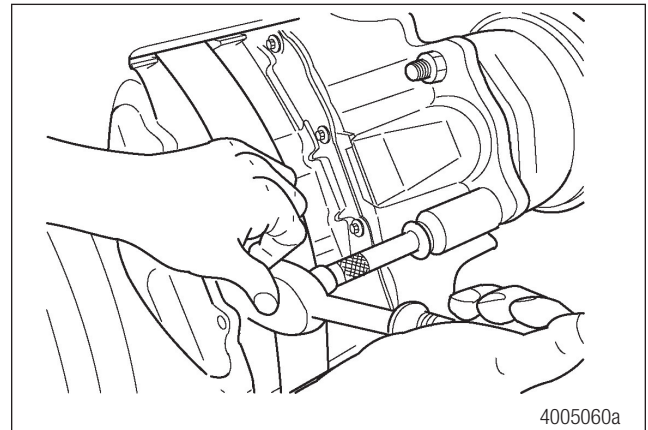

Figure 8.1 Air Chamber Removal
3. Remove the air chamber assembly from the brake caliper and inspect the air chamber. Refer to Section 10 for procedures. Figure 8.1.